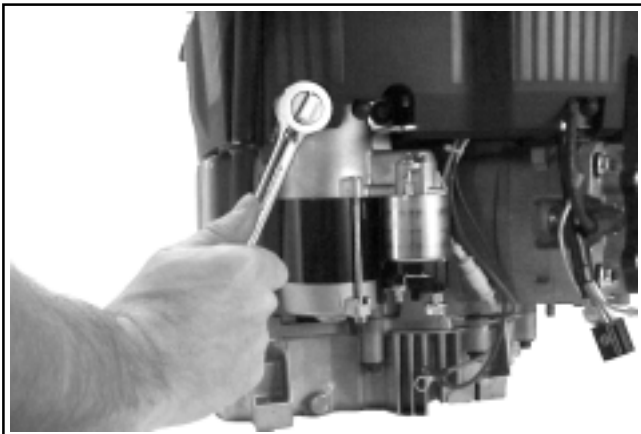

Figure 9-20. Removing the Starter Motor Mounting Screws.
2. Remove the two starter motor mounting screws. See Figure 9-20.